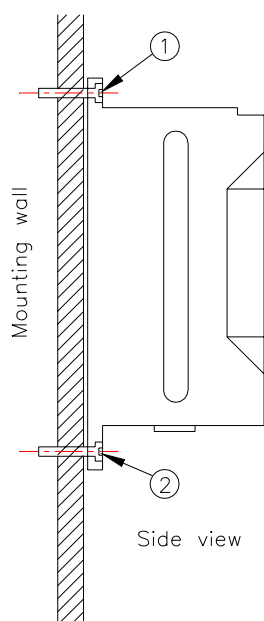

Figure 6 Wall mounting of bracket with MRU connector pointing down
6. Mount the MRU bracket on the wall, preferably with the opening pointing down, as shown in Figure 6. Mark and drill a M6 hole for the top screw (1) and enter the screw without tightening it completely. Align the bracket vertically using its own weight or by aligning it in relation to the wall. Drill two holes for the lower screws (2) and insert and securely tighten all three screws, using washers or self-locking nuts.